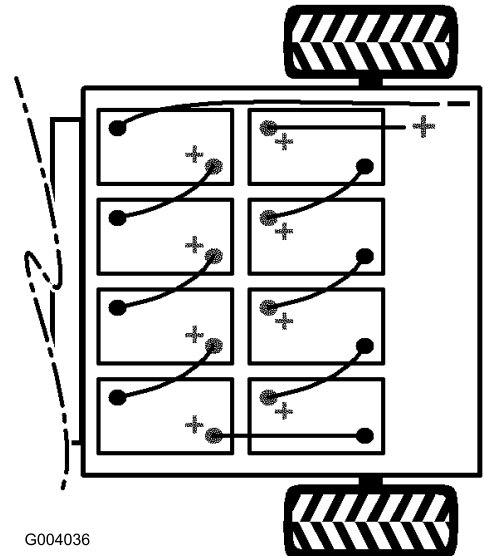

Figure 37
2. Disconnect the long, black, main negative lead running from the bank of batteries to the vehicle from the battery post (Figure 37).
3. Remove the long, red, main positive lead running from the bank of batteries to the vehicle from the battery post (Figure 37).
Note: Pay attention to the battery polarity when installing the new batteries (Figure 37).
9. Connect the batteries together with the battery cables removed previously, as shown in Figure 37.
10. Connect the long, red, main positive lead between the bank of batteries and the vehicle (Figure 37).
11. Connect the long, black, main negative lead between the bank of batteries and the vehicle (Figure 37).